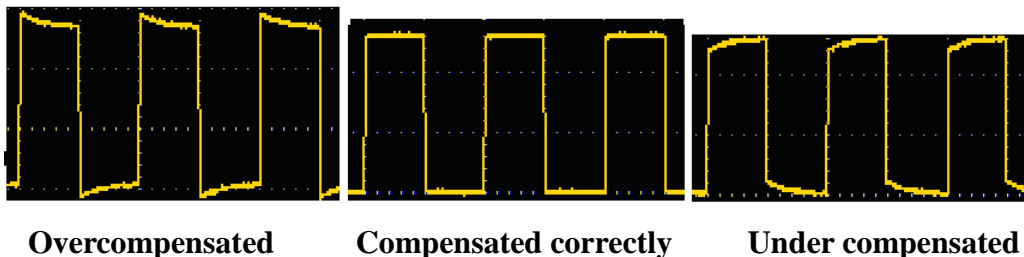
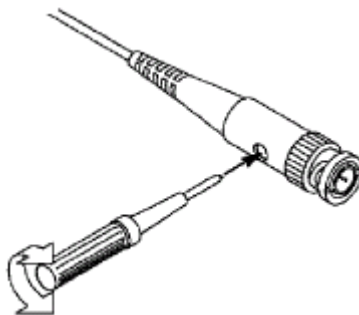

Figure 3-6 Displayed Waveforms of the Probe Compensation
Figure 3-7 Adjust Probe
2. Check the displayed waveforms and regulate the probe till a correct compensation is achieved (see *Figure 3-6* and *Figure 3-7*).